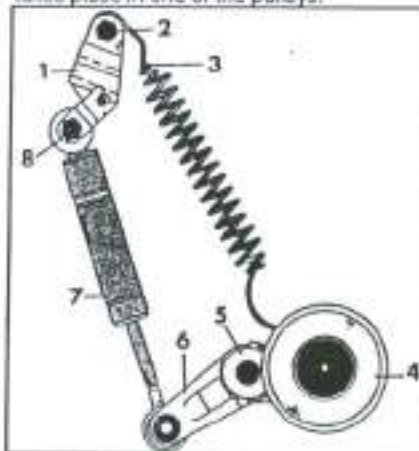

Fig. 1.89. - The component parts of the belt tensioning system.
The tensioner roller of the system is held under constant tension by means of a tension spring. A fitted shock absorber prevents vibration in the belt system. Fig. 1.89 shows the component parts of the system in detail. The tensioning rollers are not the same on all engines. Basic models without additional belt-
- Refer to Fig. 1.89 and slacken the flanged nut for the tensioning lever (1). Insert a suitable drift into the spring tensioning lever (1). The drift should have a diameter of 12 - 13 mm and must be 300 mm long.